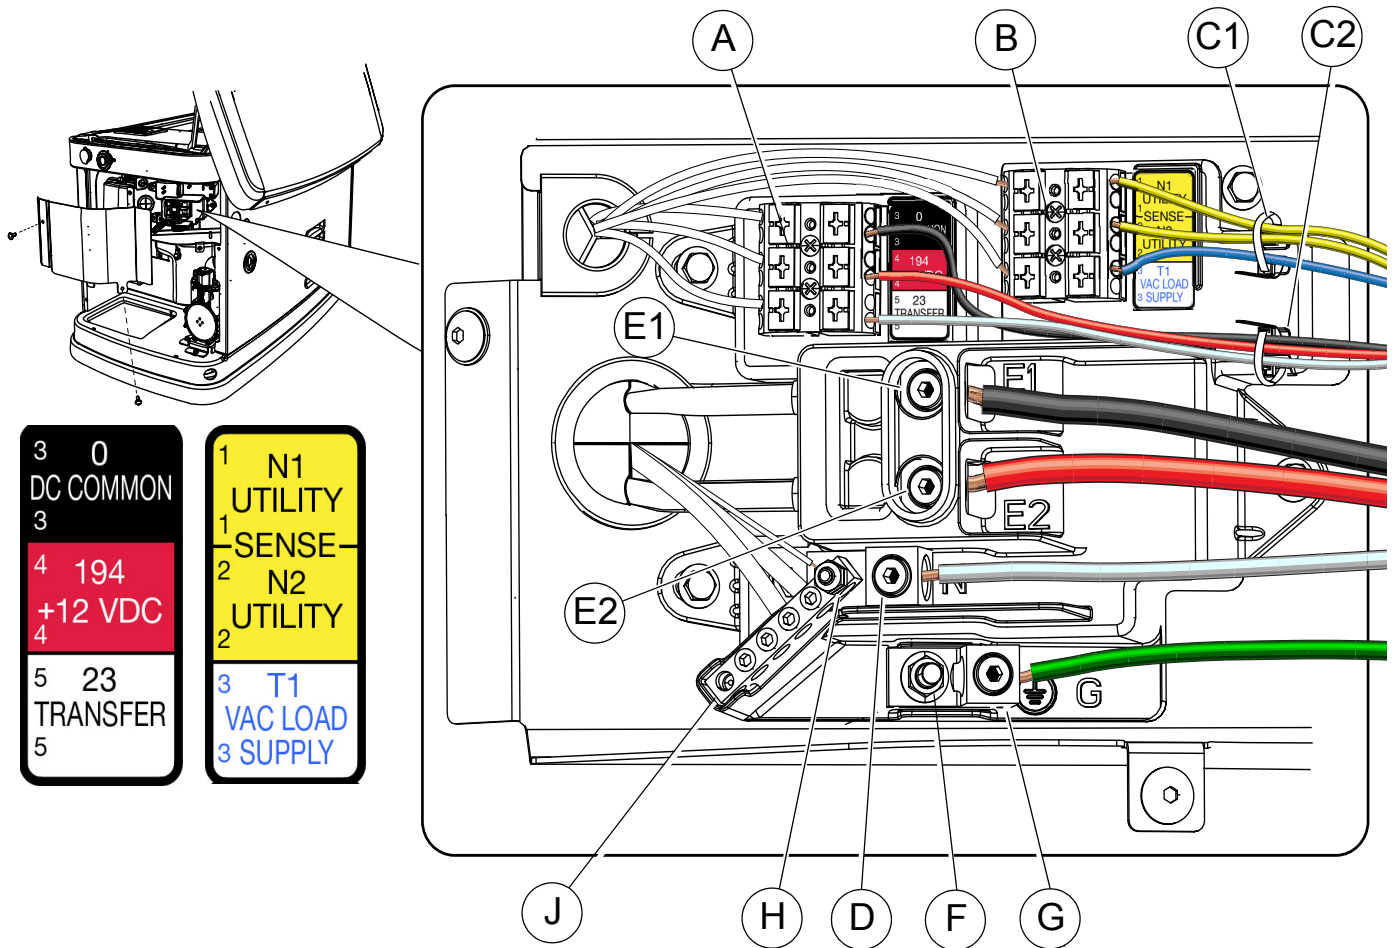

Figure 6-1. Electrical Wiring Connections
See Figure 6-1. The electrical wiring enclosure is located behind an access panel on the intake end of the unit. Remove the intake side panel as directed in Intake Side Panel Removal, and then remove the access panel. Connect wires according to the diagram and tables.
4. Strip the insulation from the ends of the wires. Do not remove excessive insulation. See Figure 6-1. Route the sense wires through the supplied wire tie (C1), and connect to the sense wire terminal block (B). Push down on the spring loaded connection point with a flat head screwdriver, insert wire, and release.
5. Using the same process, route the control wires through the second supplied wire tie (C2), and connect to the control wire terminal block (A).
- See Figure 6-1. Loosen the lugs at neutral (D), ground (G), and power wire (mains) terminals (E1, E2).
NOTE: Neutral bonding – For installations that require the neutral to be bonded to the ground, this is done on the customer connections terminals inside the generator. See Figure 6-1. Connect a suitably sized wire from the neutral bar (J) to the ground stud (F). Torque the nut on the ground stud to 35 in-lbs (3.95 Nm). This is normally required when the generator is the source in a separately derived system. It is not required when the generator is a backup source in a utility supplied electrical system with a 2-pole transfer switch. The installation must be made in accordance with NEC Articles 250.30 and 250.35(A) if the generator will be installed as a separately derived system.